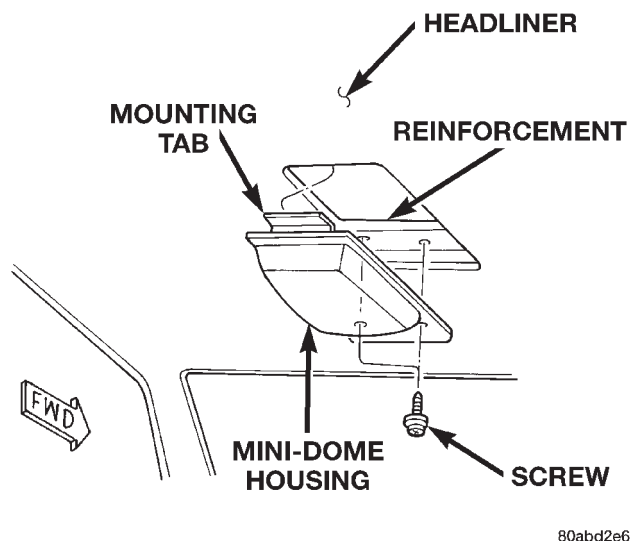

Fig. 7 Mini-Dome Housing Remove/Install
- (1) Disconnect and isolate the battery negative cable.
- (2) Remove the two screws that secure the Remote Keyless Entry (RKE) mini-dome housing to the roof panel reinforcement (Fig. 7).